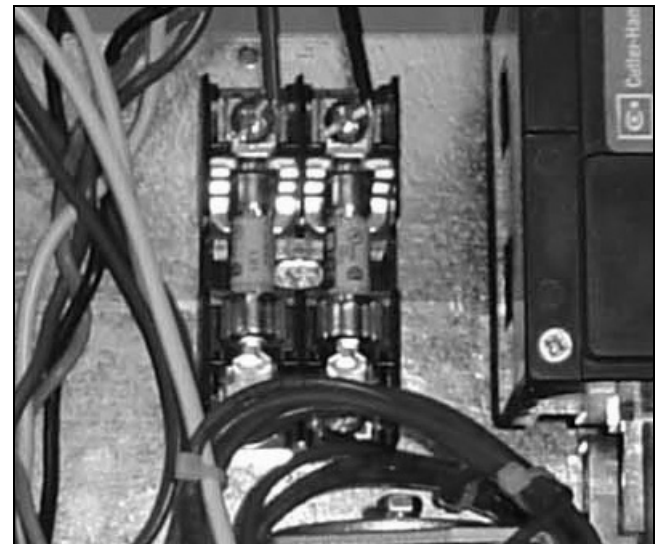

Figure 84. TVSS Fuse Block Mounted in an SE ATSs.
- Step 5:** Install the supplied fuses in the TVSS fuse block (see Figure 84).